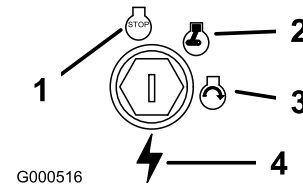

Figure 11
3. Turn the ignition key to Off (Figure 11).